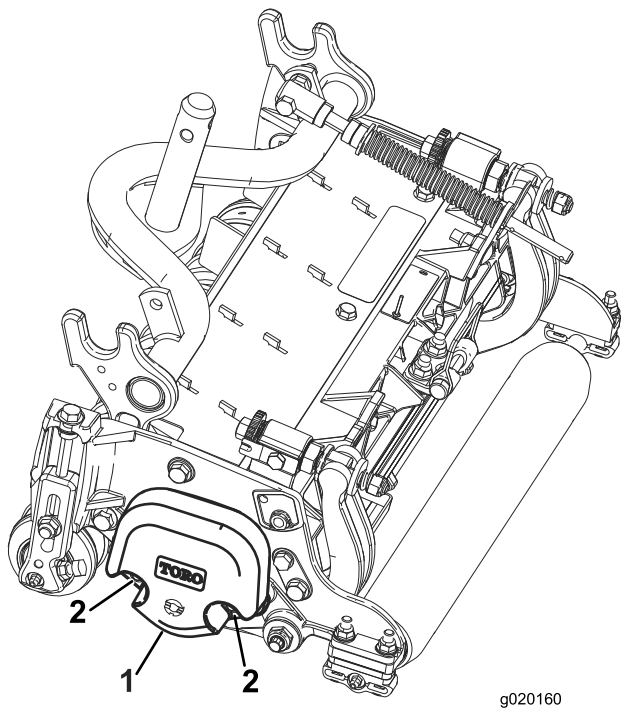

Figure 6
1. On the #2 and #4 cutting units, remove the 2 lock nuts securing the counter weight to the left end of the cutting unit. Remove the counter weight (Figure 6).